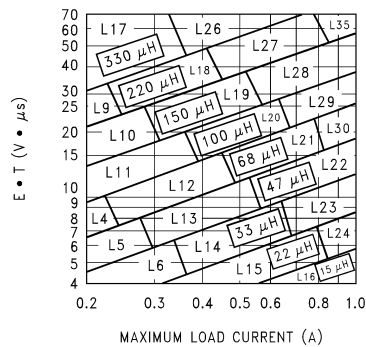

Figure 12. LM2598-ADJ
B. To simplify the capacitor selection procedure, refer to the quick design component selection table shown in Figure 12 . This table contains different input voltages, output voltages, and load currents, and lists various inductors and output capacitors that will provide the best design solutions.	B. From the quick design component selection table shown in Figure 12 , locate the 5V output voltage section. In the load current column, choose the load current line that is closest to the current needed in your application, for this example, use the 1A line. In the maximum input voltage column, select the line that covers the input voltage needed in your application, in this example, use the 15V line. Continuing on this line are recommended inductors and capacitors that will provide the best overall performance. The capacitor list contains both through hole electrolytic and surface mount tantalum capacitors from four different capacitor manufacturers. It is recommended that both the manufacturers and the manufacturer's series that are listed in the table be used. In this example aluminum electrolytic capacitors from several different manufacturers are available with the range of ESR numbers needed. 220 μ F 25V Panasonic HFQ Series 220 μ F 25V Nichicon PL Series